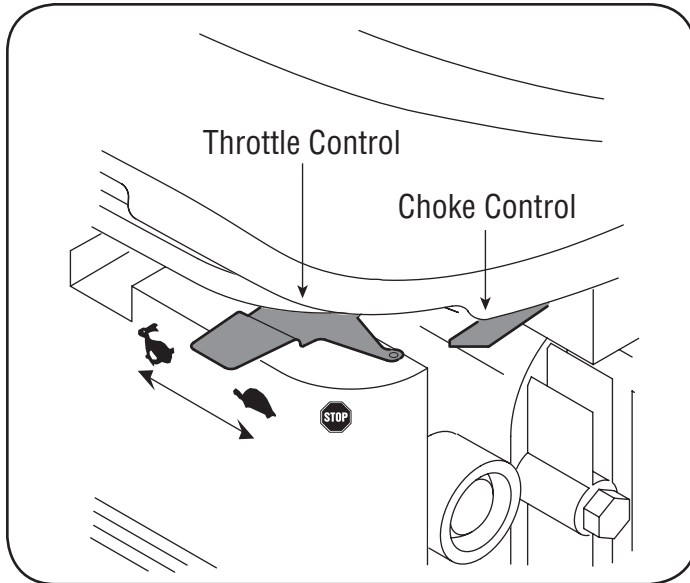

Figure 10
5. Move throttle control to START/RUN (Rabbit)  position. See Figure 10.
6. Move the choke control  toward the throttle control to choke the engine's carburetor. (A warm engine may not require choking.) See Figure 10.